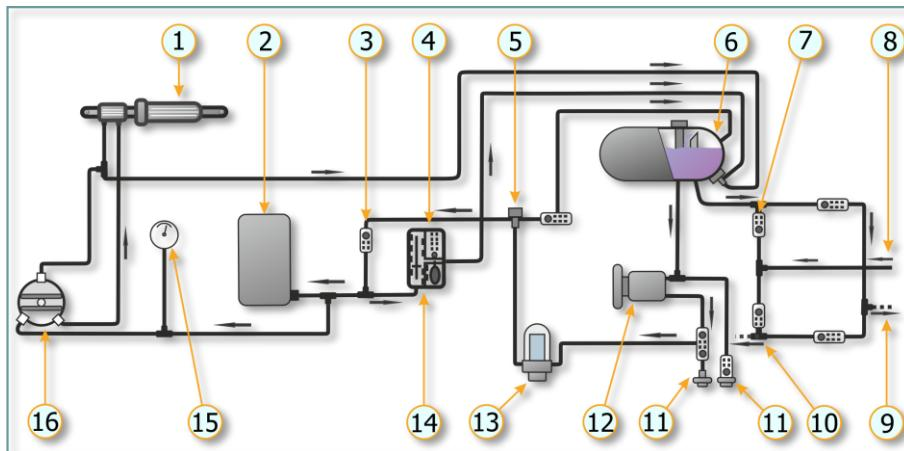

Figure 5.5. Lateral control hydraulic system
The purpose of the lateral control hydraulic system (Figure 5.5) is to relieve the loads in the transverse (roll) control line. The hydraulic booster has its own separate hydraulic system (with its own reservoir, its own pump), the purpose
The pressure in the system is created by the pump continuously operating from the engine (12) (see Figure 5.5). The pump is supplied from the hydraulic fluid tank (6). The hydraulic fluid is supplied under pressure into the system through the filter (13) and the one-way valve (3) charging the hydraulic accumulator (2), and then through the valve (16) to the hydraulic booster slide valve and into the hydraulic booster itself. The fluid from the hydraulic booster flows into the tank. If the pressure in the system reaches $60 \pm 5 \text{ kg/cm}^2$, the relief valve (14) switches the pump into the idle mode, and the hydraulic booster continues to be supplied by the hydraulic